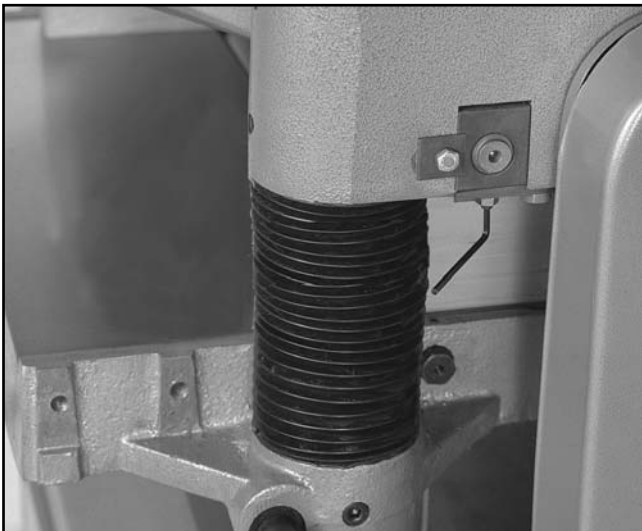

Figure 18. Adjusting roller height.
10. If you need to adjust the roller up or down, loosen the lock nut and turn the setscrew to raise or lower the rollers. **See Figure 18.**